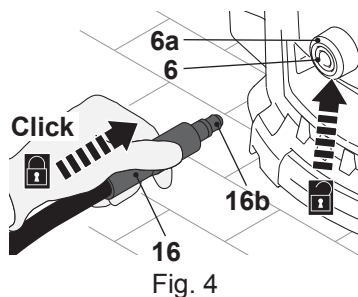

Fig. 4
- > Insert the other connector (16b) of the pressure hose (16) into the water outlet (6). Ensure it snaps in place (Fig. 4). Press the release ring (6a) to unlock if necessary.